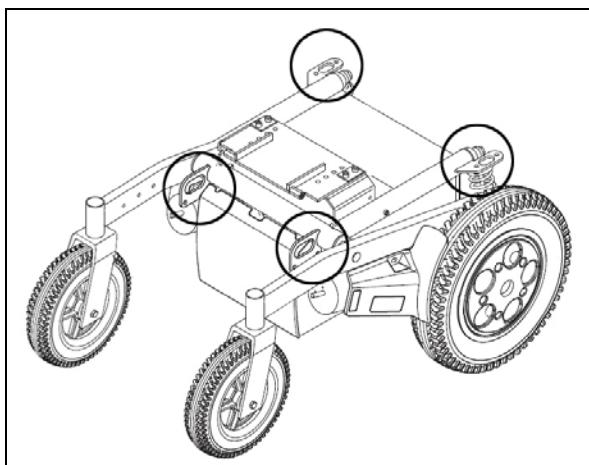

Figure 3.17: Tie-down points for safe transport. The tie-down points are the same for front wheel and rear wheel drive.
- The wheelchair should be secured only at the tie-down points on the frame (figure 3.17), not onto other parts of the wheelchair or onto any accessories (armrests, anti-tip brackets etc).**